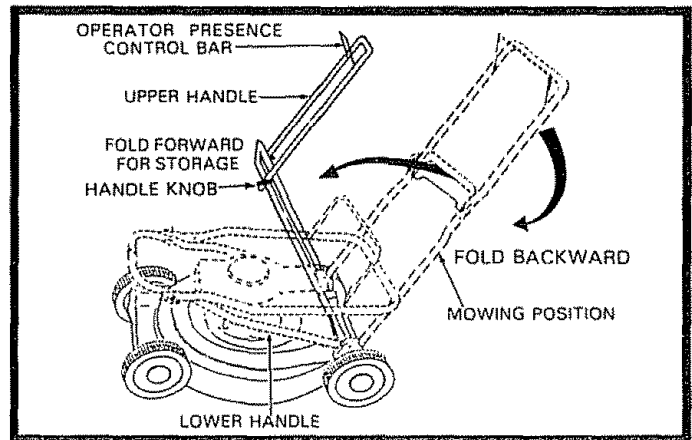

FIG. 15
- You can fold your Lawn Mower Handle for storage as shown in Fig. 15.
IMPORTANT: WHEN FOLDING THE HANDLE FOR STORAGE OR TRANSPORTATION, BE SURE TO FOLD THE HANDLE AS SHOWN IN FIG. 15. IF YOU FOLD THE UPPER HANDLE SECTION THE WRONG WAY, YOU MAY DAMAGE THE CONTROL CABLES.